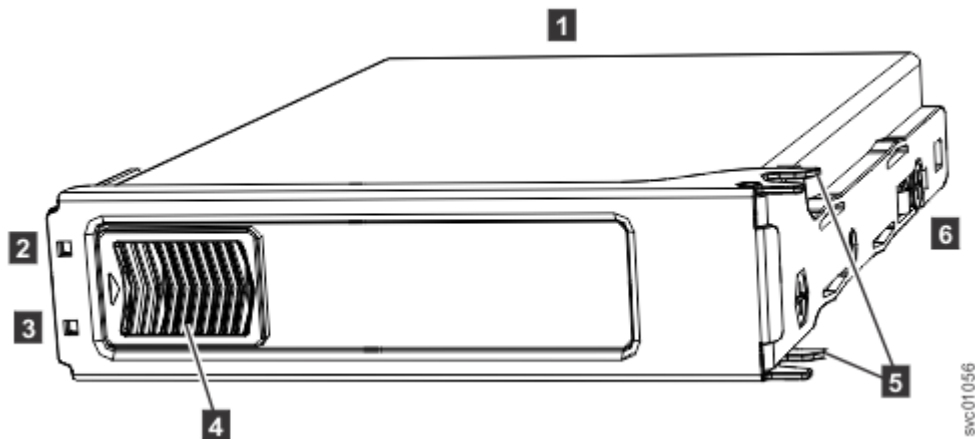

Figure 121. LEDs on a drive assembly
Figure 121 on page 114 shows the components of a drive assembly. Each drive has an online indicator (2) and fault indicator (3).